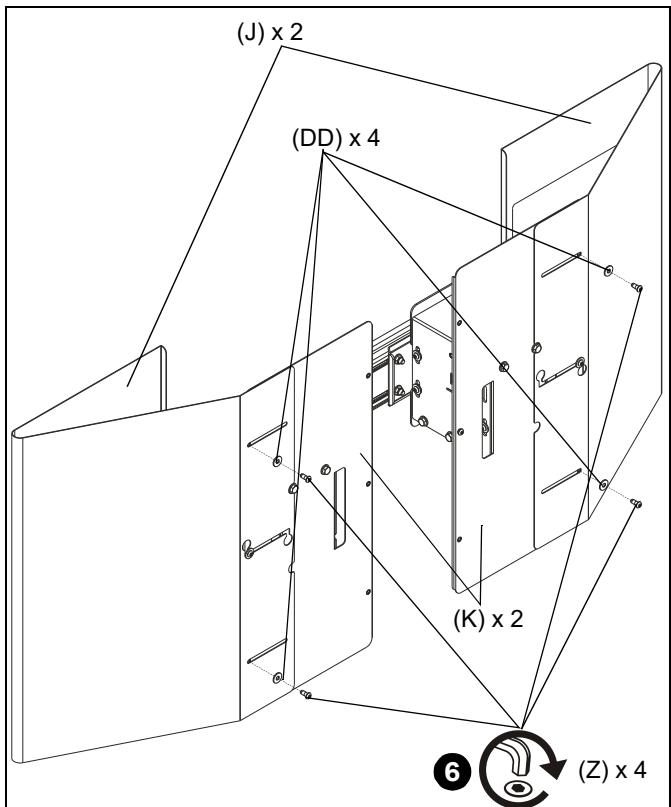

Figure 12
6. Use four 1/4-20 x 5/8" button head cap screws (Z) and four 1/4" washers (DD) to secure two side wind shields (J) to two center wind shields (K). (See Figure 12)
7. Tighten all six screws (Z).